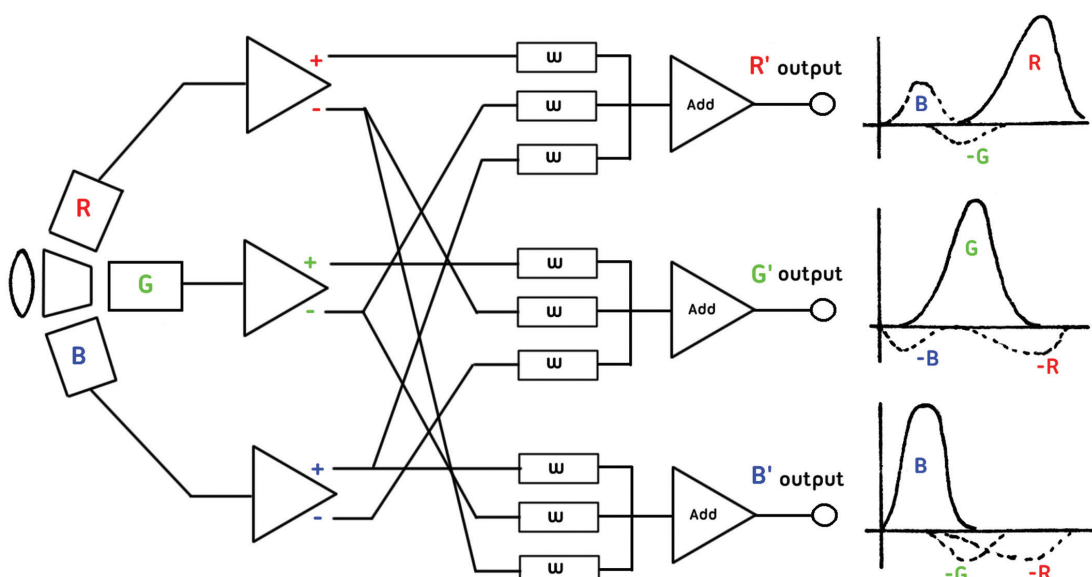

Fig. 2 Simplified Matrix diagram showing the creation of negative lobes and the weighting factor w
- ▶ Fig. 2 Top row = -Blue, Clear, ND and a dark ND filters
Fig. 2 shows a selection of filters, the different minus blue filters give correction for different camera colour temperatures. ND and colour filters can be mounted on the front of a lens for cameras without a filter wheel.
books have been written on just this. Considering fig. 1 you can see the red, green & blue responses. The tricky bit is that these response curves have negative lobes! It is also quite tricky to make CCD's or LCD's that have negative output! The way to do it is to have a Matrix where the RGB signals and their inverse signals are added together in a way that improves the colour fidelity. This attempts to take account of the characteristics of the optical system, light splitter, CCD response and so on. See fig. 2 for a block outline of a matrix.